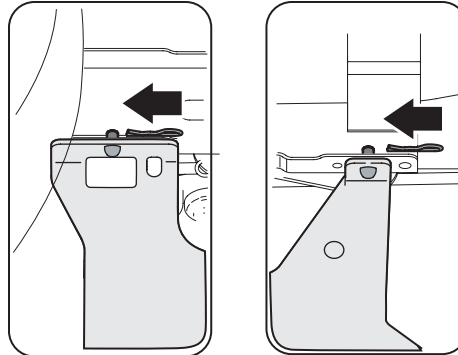

Figure 4-8
3. Fasten the undercarriage assembly to the frame with the hairpin clips removed in step 1. See figure 4-8